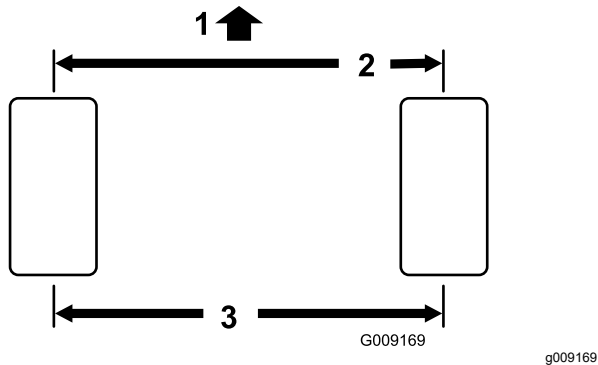

Figure 114
2. Measure the center-to-center distance (at axle height) at the front and rear of the steering tires (Figure 114).